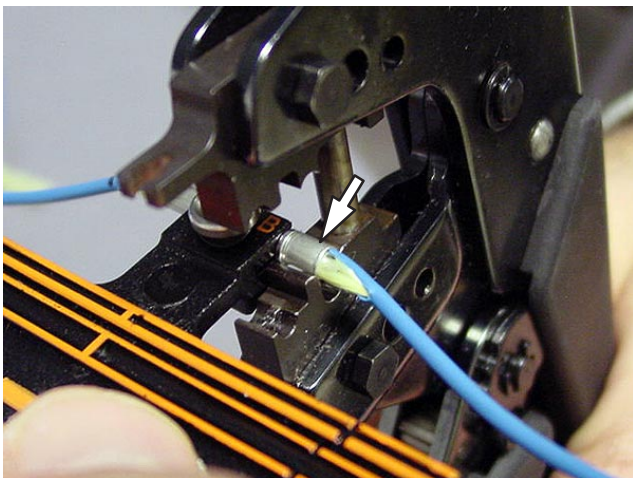

Figure 87
13. Place the splice into the die set as shown in Figure 87 and close the handles until the ratchet releases. Repeat this process on side B. See Figures 87 and 88.